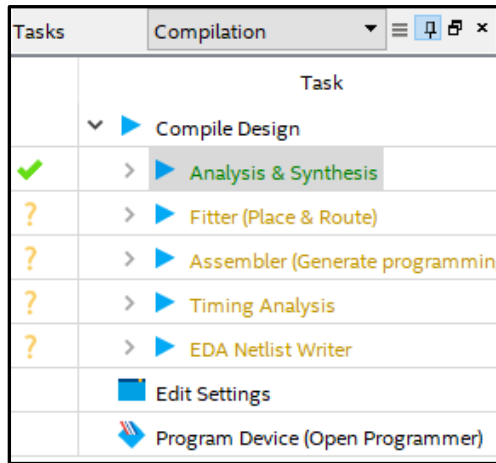

Figure 6: Functional Compile Complete
1. To functionally compile your design, double click the “Analysis & Synthesis” in the Compilation window shown in Figure 6. Figure 6 shows the result of the Functional Compiling.